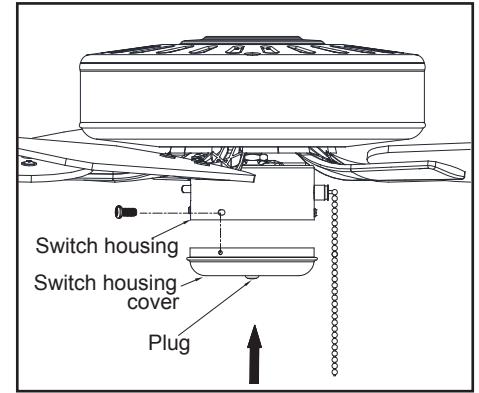

Figure 19
4. Position the switch housing cover onto the switch housing and reinstall the light kit mounting screws (figure 19).